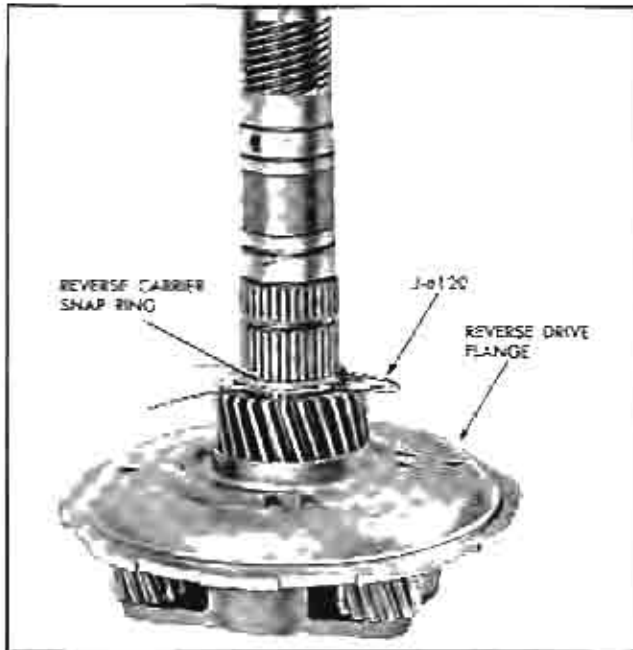

Fig. 85 Reverse Drive Flange Retainer Tool in Position
4. Install reverse planet carrier front snap ring on output shaft (Fig. 85).
5. Insert reverse drive flange retainer J-6120 between snap ring and flange snug against rear unit carrier to prevent selective washer from dropping out of position (Fig. 85). **NOTE:** When the selective washer used between the reverse drive flange and rear unit planet carrier is at or near the upper limit of thickness, retainer tool J-6120 cannot be inserted between snap ring and flange. In this case, however, it is not necessary to use the retainer since there is not enough clearance to allow the thrust washer to drop out of place.